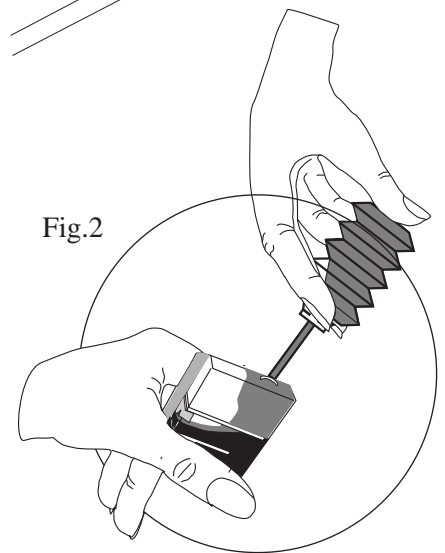

Fig.2
5. Turn the cartridge so that the foam sponge portion is at the top and the liquid chamber is at the bottom (See Fig. 2).
6. Touch the dispenser tip to the ink port of the cartridge so that it lightly presses against the foam sponge (See Fig. 2). Do not push sponge in or it will not make proper contact with the printhead after filling.